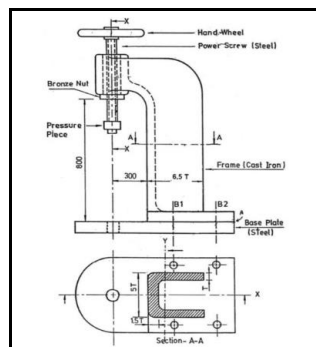

Figure 13.1. Hand press
- After completing on one side report the same on other side Figure 13.1.